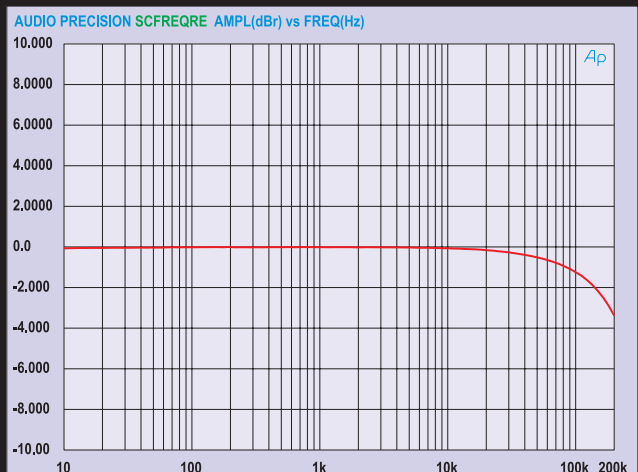

Fig.4: the frequency response is 'ruler' flat over the audible frequency range, with -3dB points at 1.5Hz and 190kHz.
Frequency response is 'ruler' flat, as shown in Fig.4. It is -1dB at 90Hz and -3dB at 1.5Hz and 190kHz. This is a much wider frequency response than the original circuit and comes about because we have used much gentler filtering at the input of the amplifier. We will describe the reasoning behind this later in the article.
–3dB @ 1.5Hz and 190kHz (Fig.4)